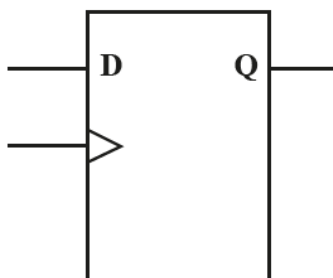

Fig. 6
- 6 (a) The circuit symbol for a rising-edge triggered D-type flip-flop is shown in Fig. 6.